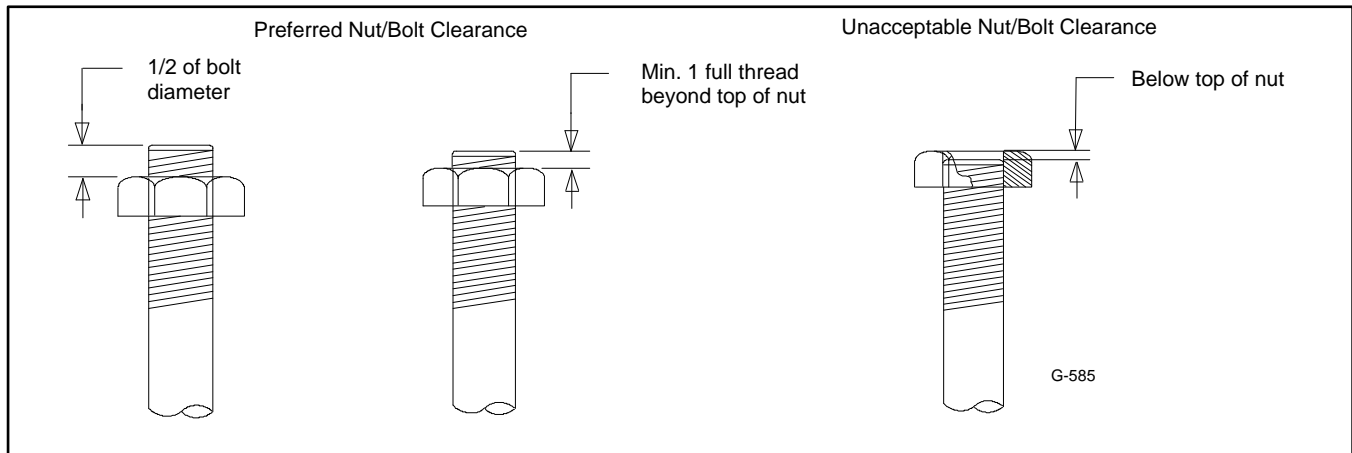

Figure 161 Acceptable Bolt Lengths
**Bolt/Screw Length:** When bolt/screw length is not given, use Figure 161 as a guide. As a general rule, a minimum length of one thread beyond the nut and a maximum length of 1/2 the bolt/screw diameter beyond the nut is the preferred method.